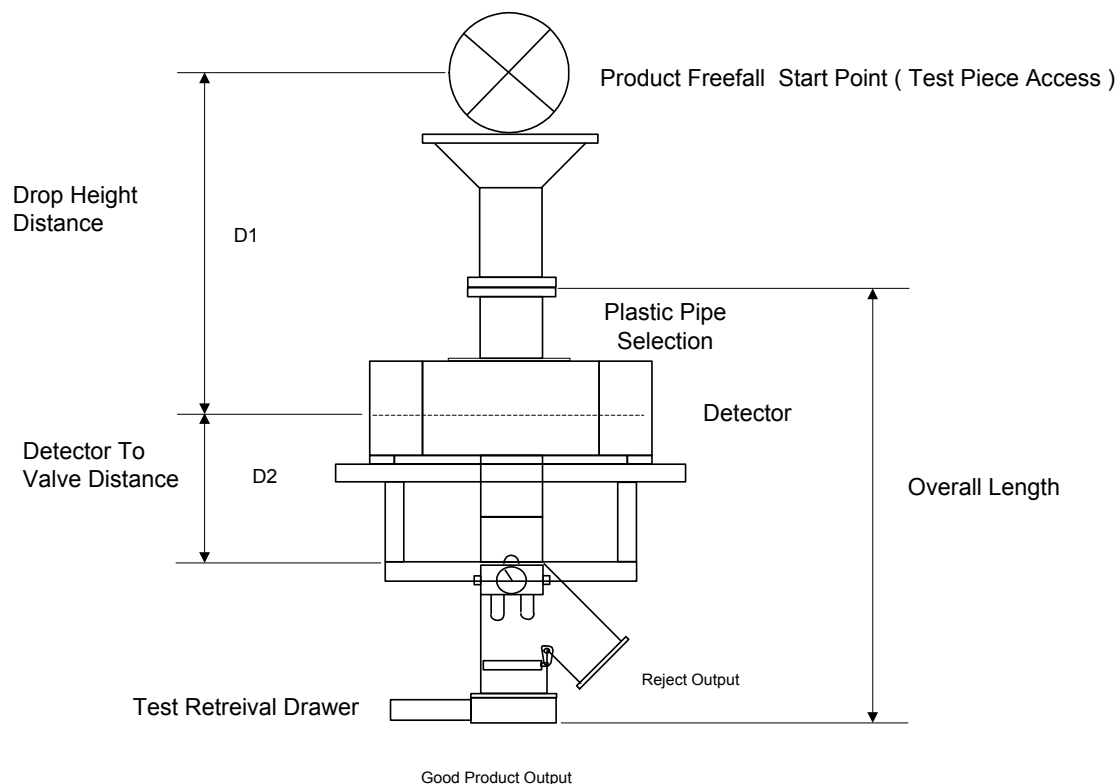

Figure 11
- Product free fall distance from initial drop to the centerline of the detector (See Figure 11 – D1)